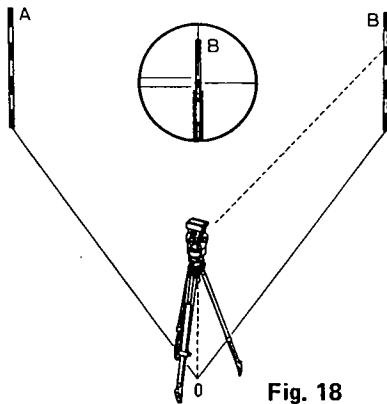

Fig. 18
- c. Use the horizontal clamp ⑦ and horizontal fine motion ④ to sight the second target B. (Fig. 18)